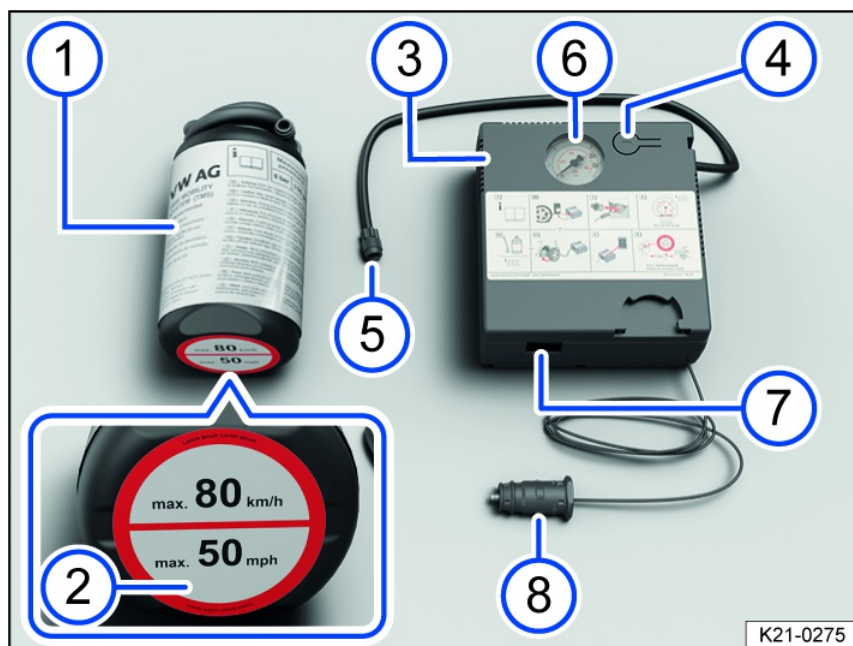

Fig. 176 Tire mobility set components (general example).
1. Stick the label from the tire mobility set *fig. 176* in the field of vision of the driver on the instrument panel.
3. Shake the tire inflation bottle *fig. 176* vigorously back and forth a few times.
4. Screw the compressor tire inflation hose *fig. 176* securely onto the tire inflation bottle *fig. 176* valve.
5. Screw the tire inflation hose of the tire inflation bottle *fig. 176* securely onto the tire valve.
6. Hold the bottle upside down and fit the top of the tire inflation bottle into the notch on the compressor *fig. 176*.
7. Place the compressor *fig. 176* together with the tire inflation bottle *fig. 176* on an even surface.